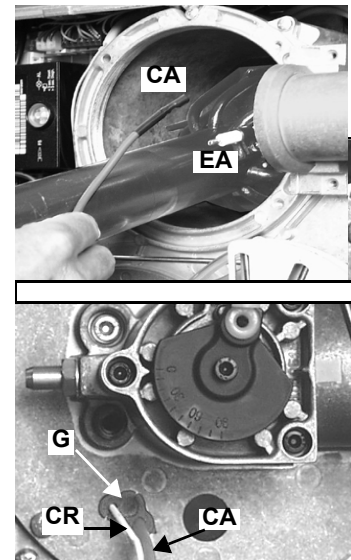

Fig. 46
- 3 Remove the connector CR of the ionization electrode (Fig. 46).
- 4 Unplug cable CA of the ignition electrode EA (Fig. 46) and extract it from the flange by removing the rubber G (Fig. 46).